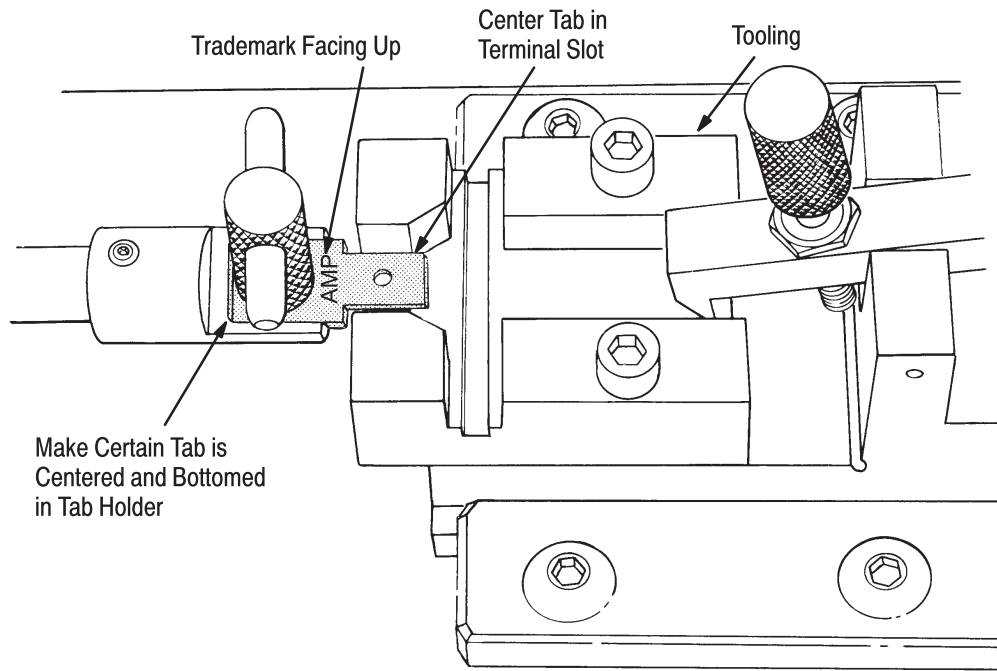

Figure 3
4. Check alignment by placing a tab in the tab holder. Advance the slide until the tooling is directly under the tab. The tab should be centered over the terminal slot in the tooling. See Figure 3.